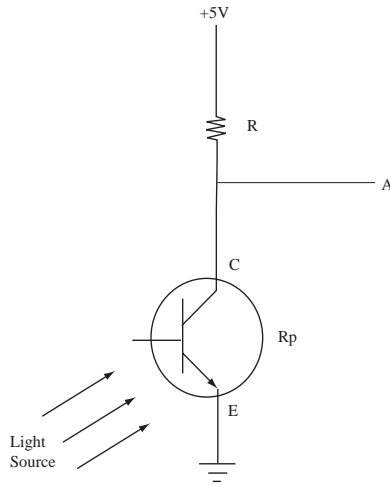

Figure 2: Voltage Divider Using Phototransistor.
Since photosensors behave as variable resistors, one way to use them is to wire them in a voltage divider circuit shown in Figure 2. The amount of light seen by the sensor will produce a proportional output voltage between 0 to 5 volts at point A. Do you know why this is true?
1. For the voltage divider circuit shown in Figure 2, determine the output voltage at point A in terms of resistance R , the resistance of the phototransistor, R_p , and the supply voltage (+5V). Hint: This is a simple voltage divider circuit!